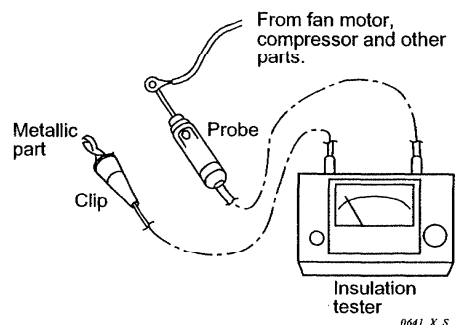

Fig. 19
- Similarly, disconnect the lead wires from compressor, capacitor, etc. (Fig. 19)